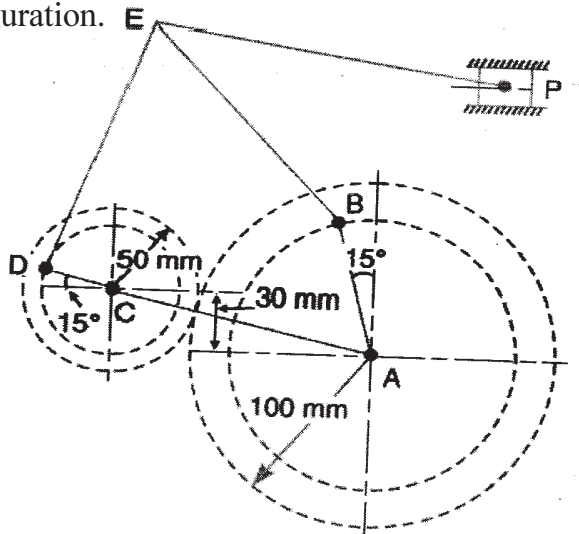

Fig. 02
b) The dimensions of the Andreau differential stroke engine mechanism, as shown in Fig. 02, are as follows: $AB = 80$ mm; $CD = 40$ mm; $BE = DE = 150$ mm; and $EP = 200$ mm. The links AB and CD are geared together. The speed of the smaller wheel is 1140 r.p.m. Determine the velocity and acceleration of the piston P for the given configuration. [12]